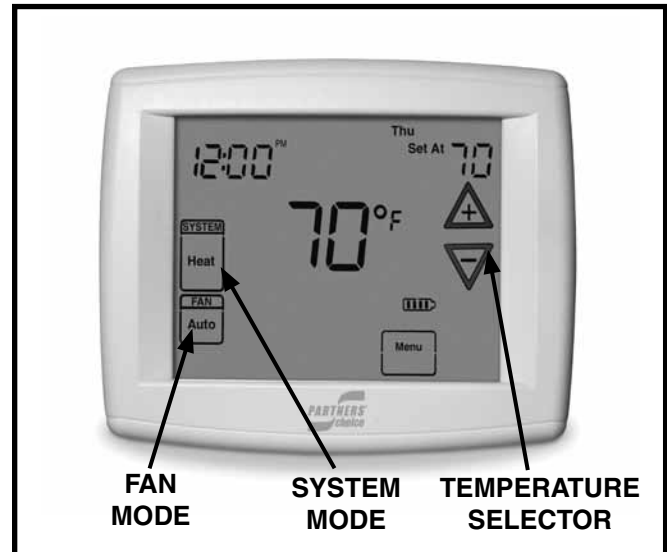

Figure 1. Digital Thermostat
1. Set the thermostat system mode to COOL and the thermostat fan mode to AUTO. See Figure 1.
1. Set the thermostat system mode to Heat and the thermostat fan mode to AUTO. See Figure 1.
Set the thermostat system mode to OFF (see Figure 1) and the thermostat fan mode to AUTO. **NOTE:** The system will not operate, regardless of the thermostat temperature selector's setting.
Set the thermostat fan mode to ON (see Figure 1). The indoor blower will start immediately and will run continually until the fan switch is reset to AUTO. **NOTE:** On some thermostat models the setting may be called CONT.
1. Set the thermostat's system mode to HEAT or AUTO and change the fan mode to AUTO. See Figure 1 (pg 3).